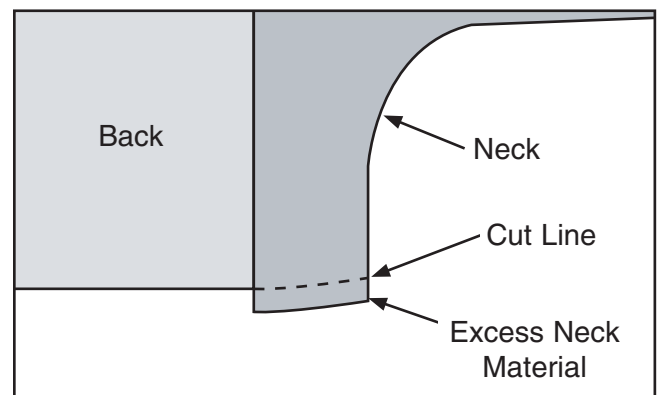

Figure 5. Excess neck material and cut line.
6. Use a small knife or saw to remove the portion of the neck that protrudes below the back of the ukulele (see **Figure 5**).